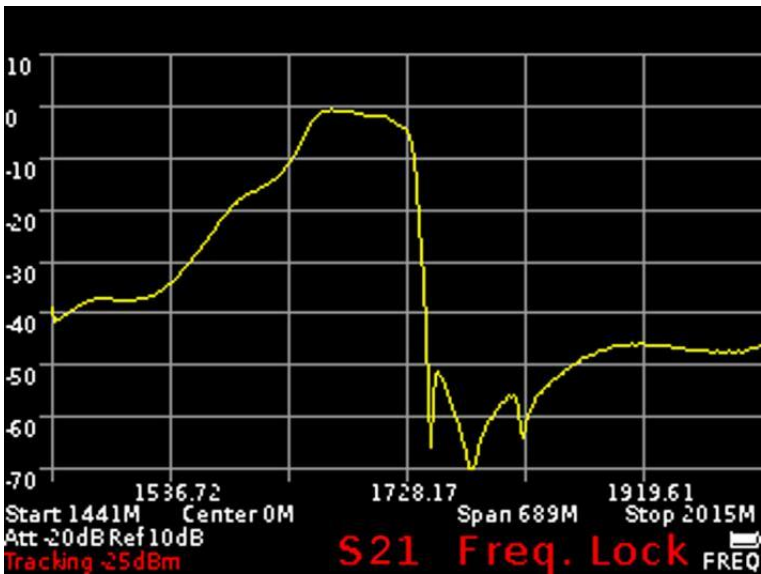

Figure 17 Determination of the amplitude-frequency characteristics of the equipment under test
7.6.7. To determine the amplitude-frequency characteristic of the equipment under test, select the S21 mode, as shown in Figure 17. On the screen below the grid, the display of the S21 mode and the warning UNCAL (not calibrated) appear in the information box.
On the screen under the grid in the information label will display the mode S21 and the message Freq. Lock (frequency cannot change) (Figure 17)